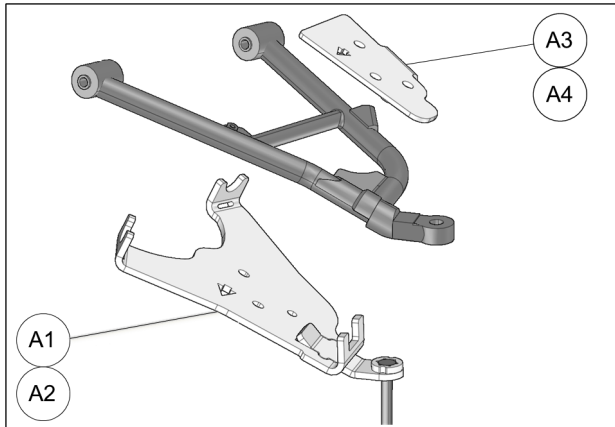

Fig. 21
10. Position bottom part of anchor bracket (**A1-A2**) under lower suspension arm. Position top part (**A3-A4**) over suspension arm. See Fig. 21